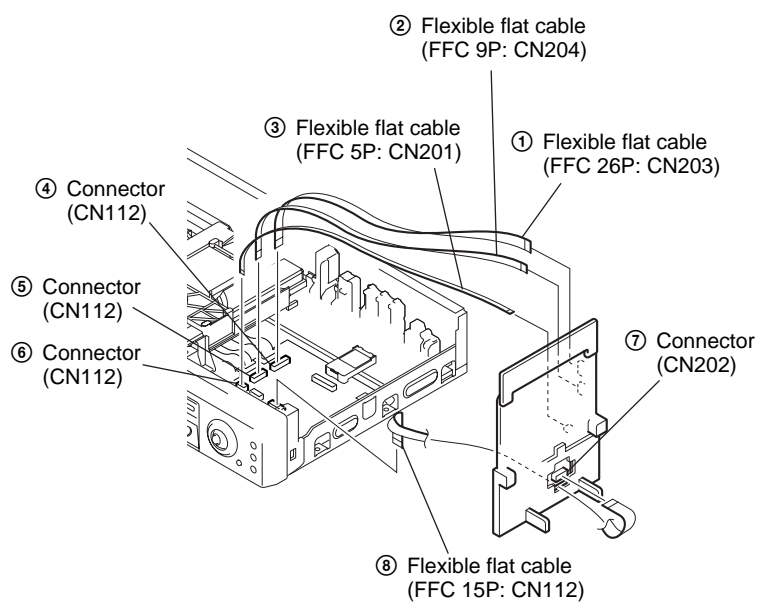

Fig. 4
5) Set the four flexible flat cables as shown in Fig. 4.